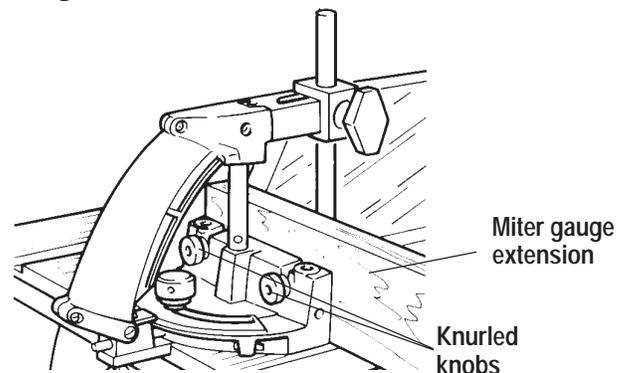

Figure C-85
4. The miter gauge has a special safety grip and quick clamp that helps hold stock securely in the miter gauge. The quick clamp can be adjusted to accommodate any size stock up to 4-1/4" thick simply by loosening the knob and raising or lowering the rod and shoe assembly. If you need to perform an operation where the quick clamp would be in the way, you can remove it by loosening the setscrew at the top, near the back of the arm. As shown in Figure C-85.